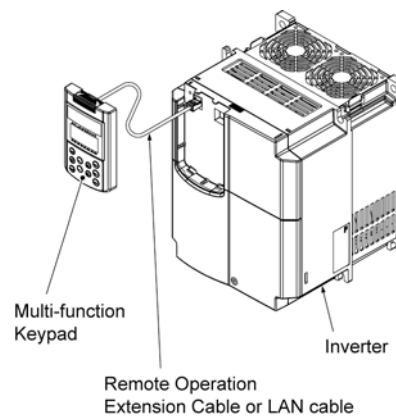

Figure 2.31 Installing Multi-function Keypad at a Remote Site (e.g. for Operation on Hand)
- Installing a keypad at a remote site (e.g. for operation on hand) (Refer to Figure 2.31.)